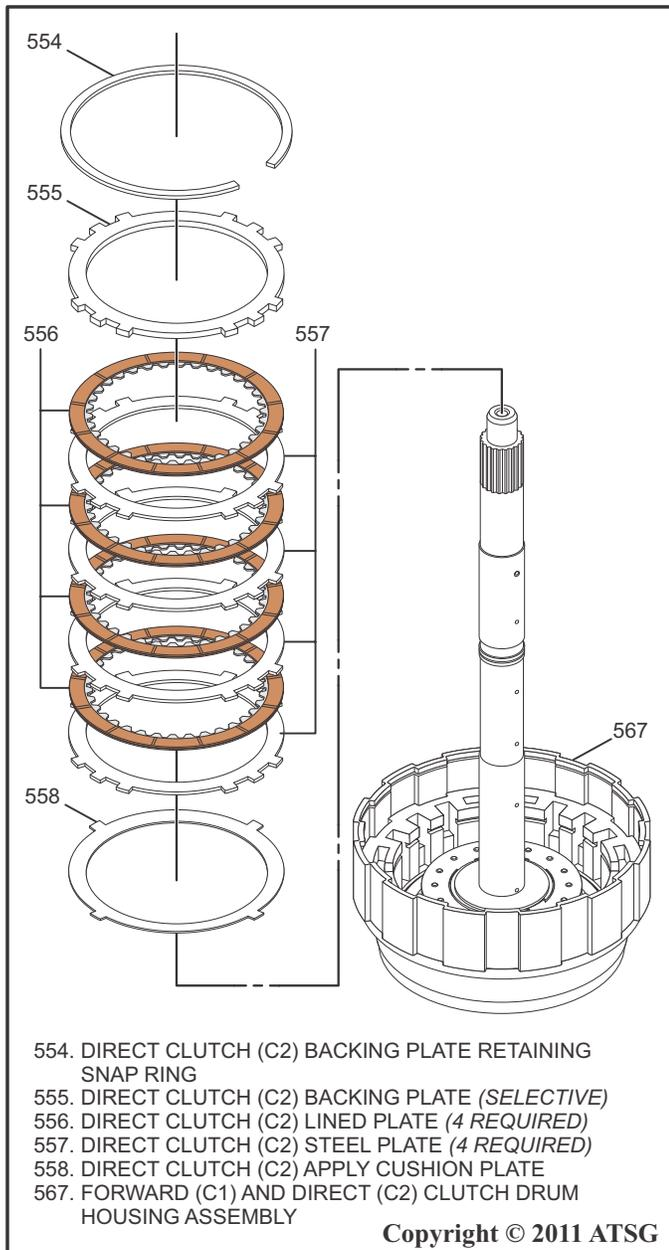

Figure 123
13. Install the Direct Clutch (C2) Apply Plate into the drum as shown in Figure 123.
14. Starting with a Steel Plate and alternating Steel Plates and Lined Plates, install the Direct Clutch (C2) Steel and Lined Plates into the drum as shown in Figure 123.
15. Install the Direct Clutch (C2) Backing Plate into the drum as shown in Figure 123.
16. Install the Direct Clutch (C2) Backing Plate Retaining Snap Ring into the drum as shown in Figure 123.